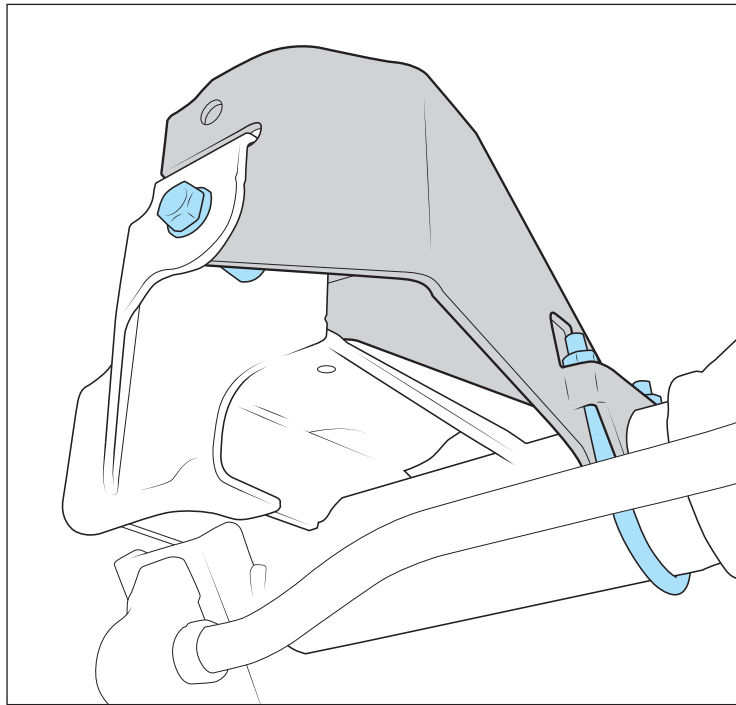

Figure 11
15. Install AEV track bar tower in orientation shown (fig. 11). Use the AEV supplied M14 bolt and crush sleeve in the factory location with factory flag nut. Use the provided U-bolt around axle tube. Once both pieces are started, torque U-bolt nuts to 43 lb-ft. Torque the M14 bolt to 130 lb-ft.